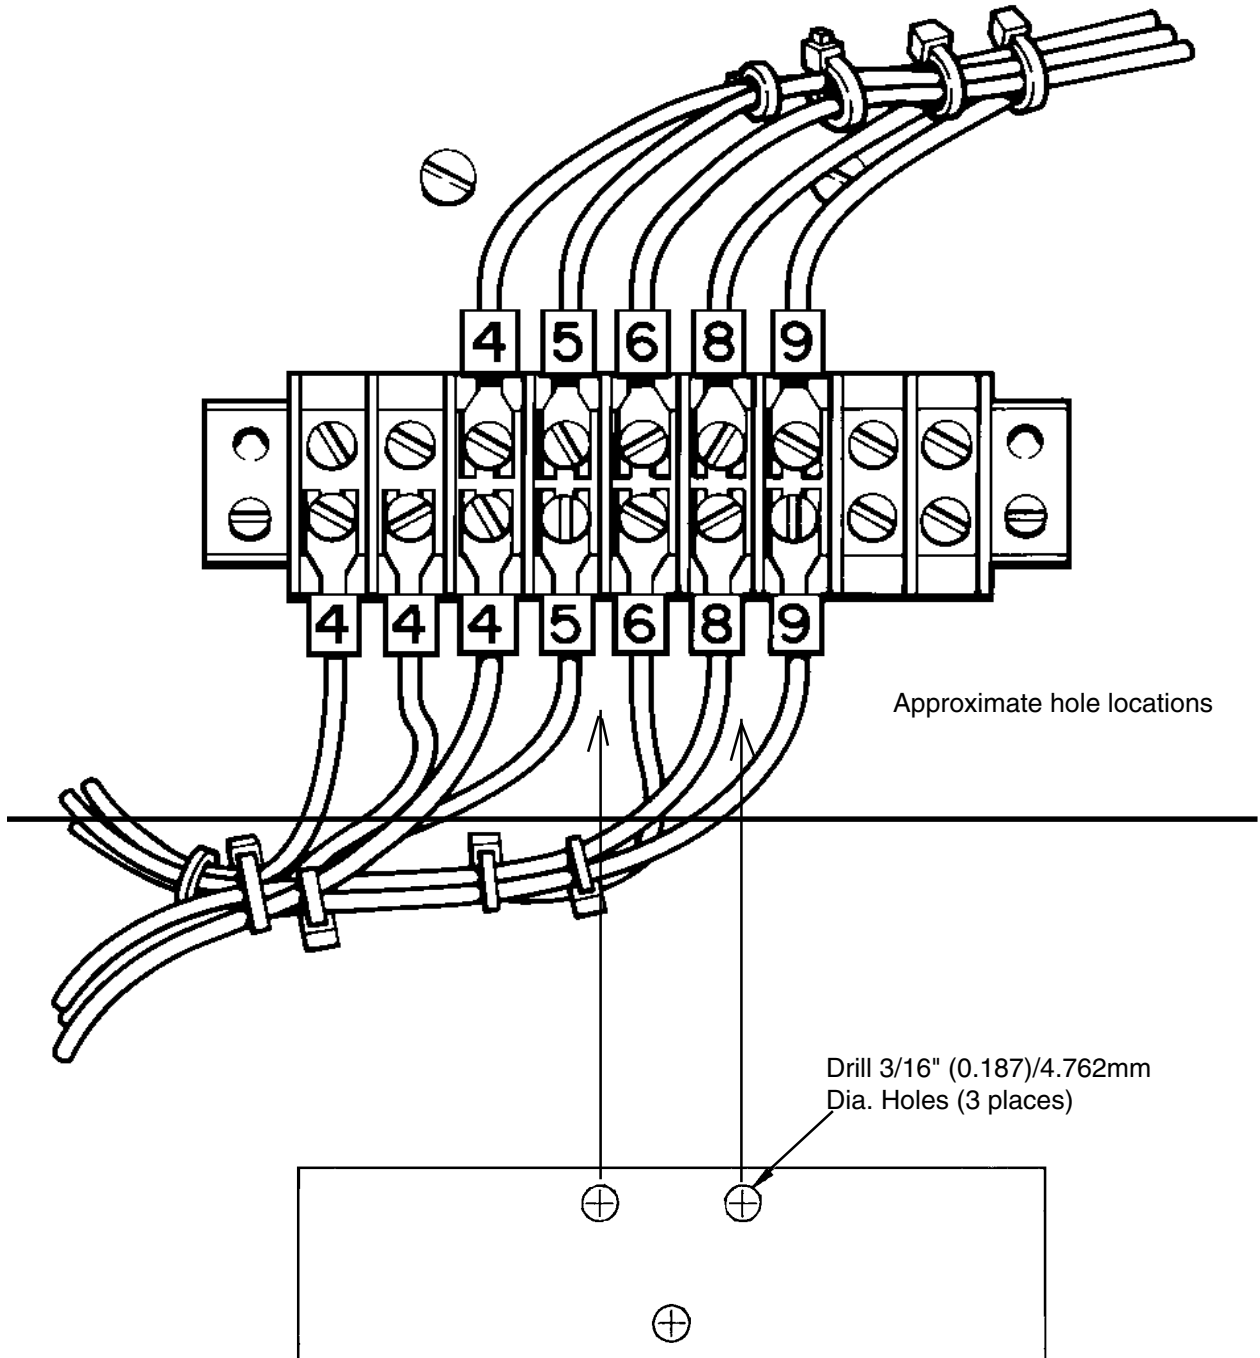

Figure 1 Mounting Holes
4. Disconnect the 4 switch leads (red) from the terminal strip. These leads are marked 4 (2), 5, and 6.
5. Disconnect the input water hose (left side) from flow switch 2FLS (005053). Refer to Figure 38. Disconnect the other end of the hose from the water manifold (top hose) at rear panel. Refer to Figure 39. Remove the plug from the upgrade kit and screw into the manifold where the hose was disconnected. Refer to Figure 1 in this upgrade instruction.
To install the Kobold flow switch manifold subassembly upgrade kit, refer to Figures 1 and 2 and perform the following procedure.
1. Refer to Figure 1